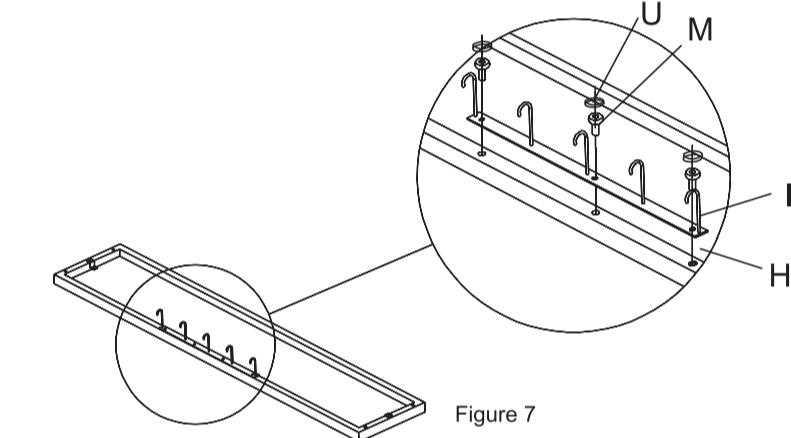

Figure 7
Attach the Hook (I) to the Glass Side Shelf (H) with Bolt (M) and Bolt Cap (U) as shown in Figure 7.